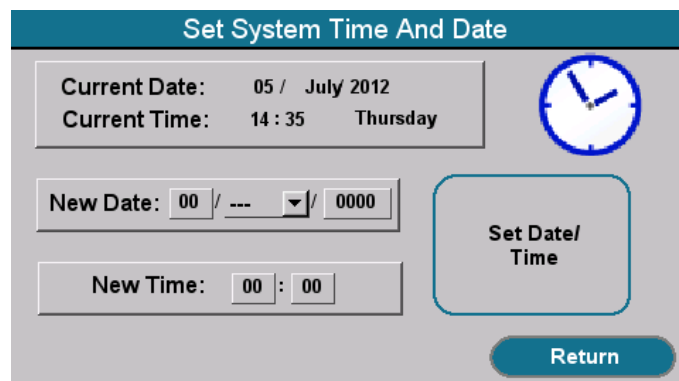

Fig. 8C
1. From either the Single Day or Every Day screen, press the [Set Clock] button and the “Set System Time and Date” screen will appear (Fig. 8C)
To load the new time and date (Fig. 8C):